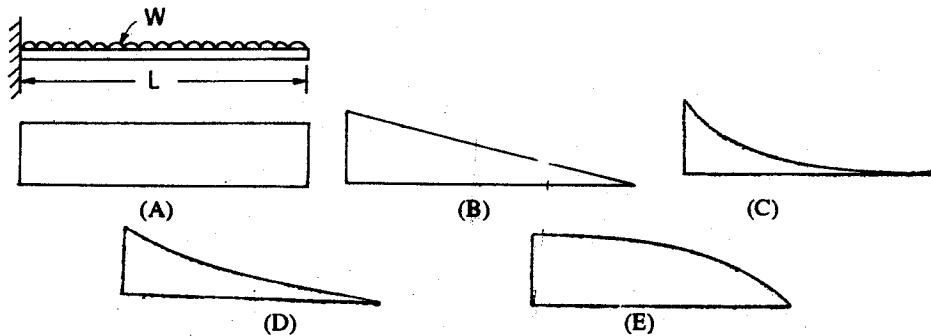

Fig. 39
82. Fig. 39 shows a cantilever beam carrying a uniformly distributed load $W = wL$. Five diagrams below it show shear diagram, moment diagram, deflection diagram, load diagram, slope diagram. These are shown in above order by